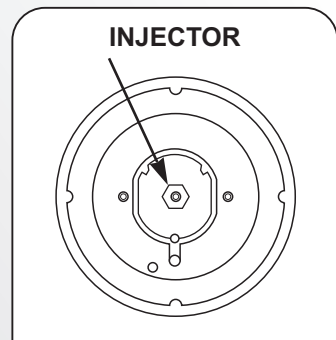

Figure 7
- Insert on hexagonal spanner (7 mm) into the burner support (Figure 7)